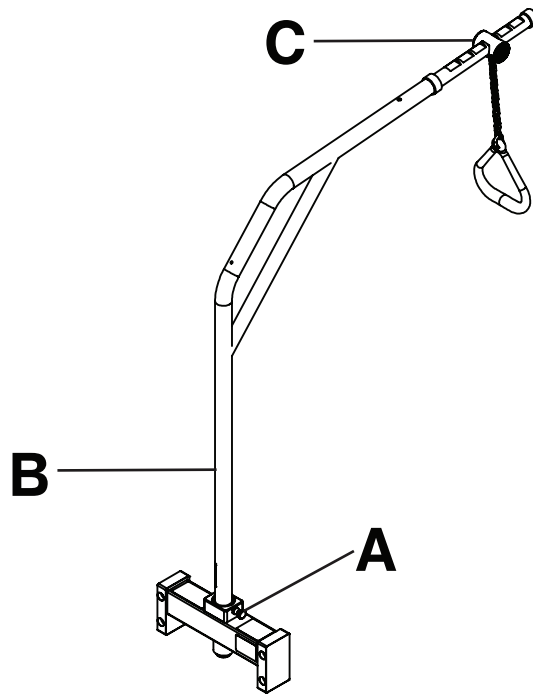

Figure 19 – Adjusting the patient helper
1. Pull the patient helper knob (A) and rotate the lifting pole (B) until the desired position (Figure 19).
2. Release the patient helper knob (A) and rotate the lifting pole (B) until the knob locks in position (Figure 19).
3. Lift the trapeze hanger bracket (C) and move it forward or backward until the desired position (Figure 19).